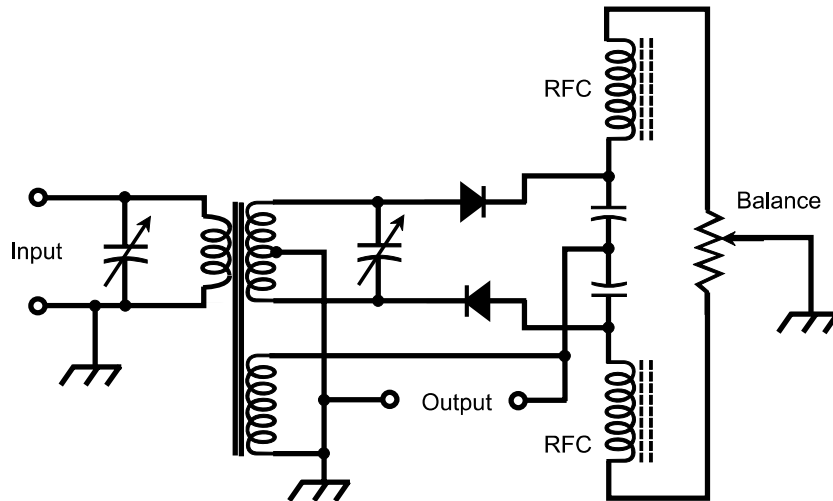

Fig. 10-5C. An FM ratio detector.
- *Ratio detector:* This FM detector is a discriminator with a built-in limiter. The original design was developed by RCA (Radio Corporation of America), and is still used today in some receivers. A simple ratio detector circuit is shown in Fig. 10-5C. The “balance” control is set for the best received signal quality.